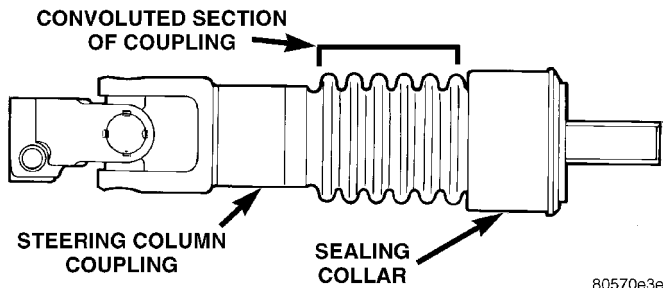

Fig. 5 Steering Column Coupling Inspection
(4) Inspect steering column coupling in the following areas for signs of damage:
- Inspect the sealing collar on the steering column coupling (Fig. 5) to ensure it is not cracked, broken, or otherwise damaged requiring coupling replacement.
- Inspect the convoluted section (Fig. 5) of the steering column coupling for the following conditions or any other visible signs of damage.